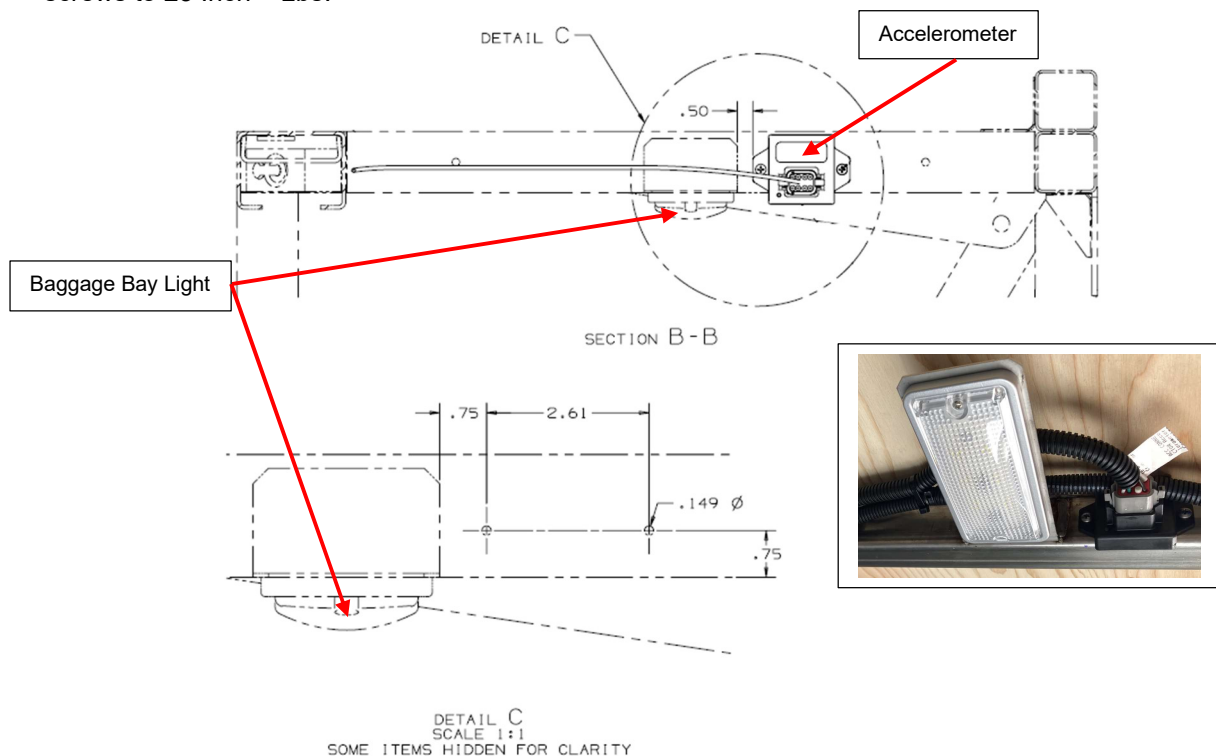

Figure 3: Drilling Locations for Accelerometer Mounting Screws.
8. Drill two 0.149" Dia mounting holes in the forward face of the frame member at the locations shown in Figure 3.